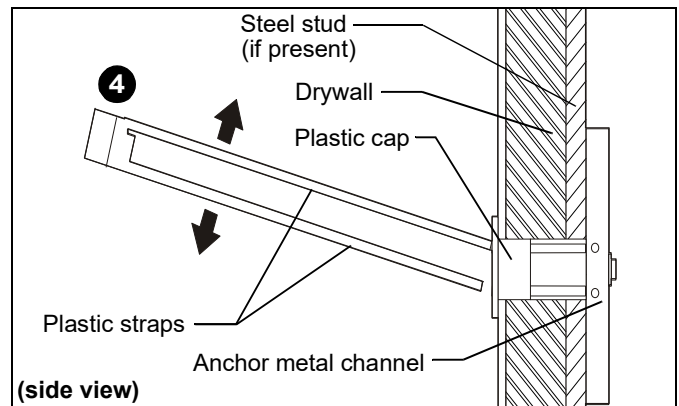

Figure 31
4. Snap off plastic straps on anchor at wall by pushing side to side, snapping off straps level with flange of plastic cap. (See Figure 31)